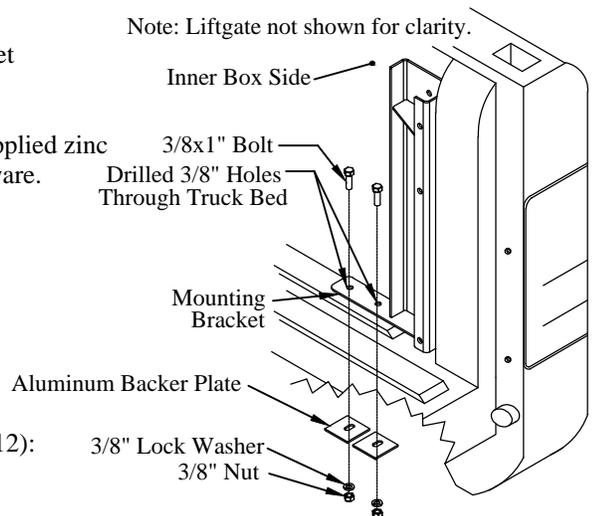

Figure 11: Mounting bracket and backer plates.
8. **Drill** two (2) 3/8" holes into the truck bed floor using two holes in the bracket as a guide (Figure 11).
9. **Fasten** each bracket to the truck box using the supplied (Figure 11):